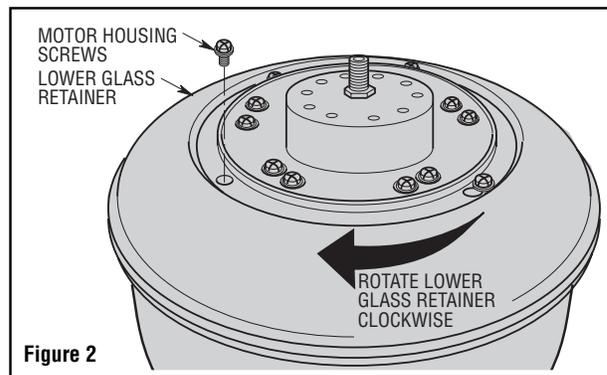

Figure 2
2. Place the lower glass retainer onto the motor housing and engage the key holes of the retainer onto the three motor housing screws. Rotate the lower glass retainer clockwise and tighten the three motor housing screws. Reinstall the motor housing screw (previously removed) into the remaining hole of the lower glass retainer and tighten all screws securely (Figure 2).